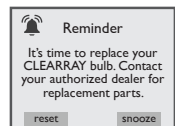

Figure 15.0c
21. CLEARARRAY® UV Replacement Reminder: This message will appear when the CLEARARRAY® UV bulb reminder time has expired (Figure 15.0c). The CLEARARRAY® UV bulb **must be replaced**.